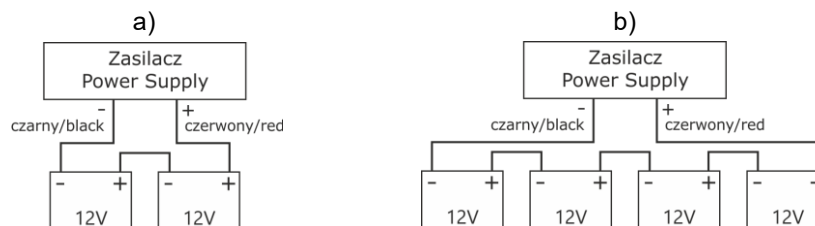

Fig. 4 Connecting batteries depending on voltage version of power supply:
6. Connect the battery/batteries to the BAT output connector using the included PC5/2-2P plug. Maintain correct polarity (positive pole marked "+", negative pole marked "-") and appropriate connection configuration (Fig. 4):